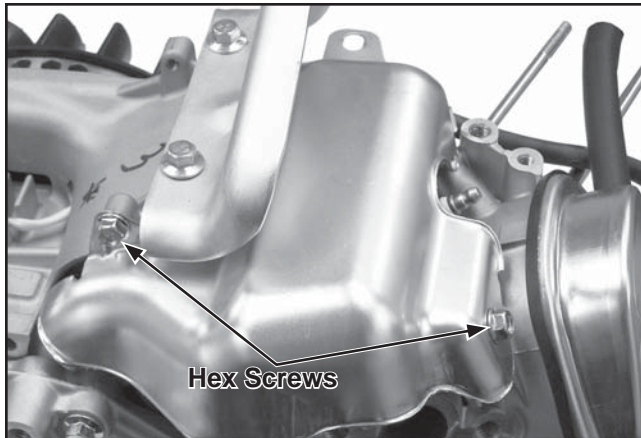

Figure 11-64. Install Upper Heat Shield.
1. Install the upper shield on the cylinder and secure with two hex flange screws. Torque to 8 N·m (71 in. lb.). See Figure 11-64.